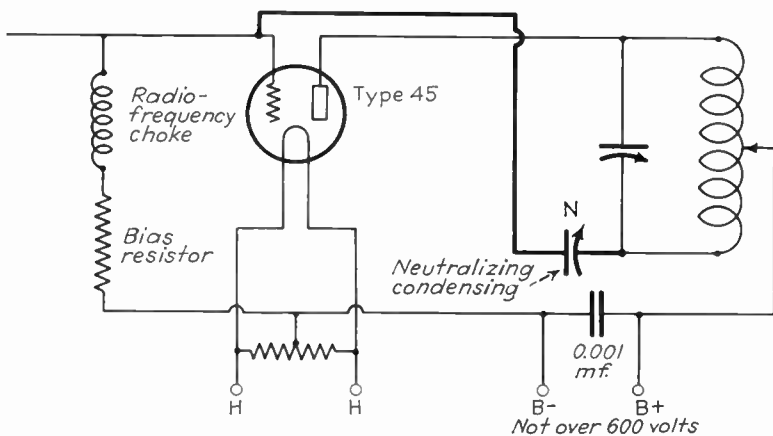
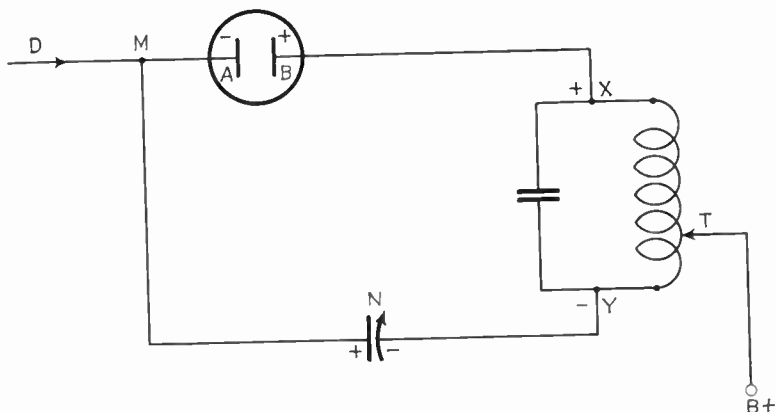

FIG. 309. Standard amplifier circuit with neutralizing condenser.
FIG. 310. Simplified circuit used to explain neutralization of amplifier circuit.
The standard amplifier circuit is shown in the diagram in Fig. 309.
There are several methods of picking up the neutralizing voltage from the tank coil, but the method shown in the diagram (Fig. 309) is the most practical. Make the B positive connection a few turns from the end of the tank coil with a clip so the connection can easily be changed.
How the Unwanted Frequency Can Be Overcome. When the set is in operation, a regular surging comes to this circuit over wire *D* (Fig. 310) from the crystal oscillator
The actual steps in neutralizing, or overcoming, the effect of the tube capacity can better be shown by using a simplified circuit (see Fig. 310). Since the tube elements act as a condenser of a definite capacity, let us substitute a condenser $A-B$ of this same capacity in this new circuit in place of the tube.
In Fig. 309 is shown the amplifier circuit. In Fig. 310 is shown a part of the same circuit with a condenser drawn at $A-B$ in place of the tube. Condenser $A-B$ has the same capacity as the capacity between the grid and the plate of the tube.
Now, when the end of the coil at *X* (Fig. 310) is positive, it draws electrons from side *B* of the condenser which then becomes positive. But the electrons drawn to side *A* when side *B* is positive interfere with the regular surging from *D*. We can run a wire from the end of the coil *Y* to *M*, where electrons from *Y* will rush to *A* to supply the demand created by the positive plate *B*.
The *B* positive lead is connected to the ground by means of a small condenser. The point on the coil where *B* positive taps in is always at zero or ground potential as far as the radio-frequency current is concerned, because any voltage which tends to develop here is by-passed through the condenser to the ground. The condenser, however, keeps the direct current of the *B* positive and *B* negative separated (see Fig. 309).
2. When the *X* end of the tank coil is positive, what effect would the grid have upon the feed line *D* if the amplifier were not neutralized (see Fig. 310)?